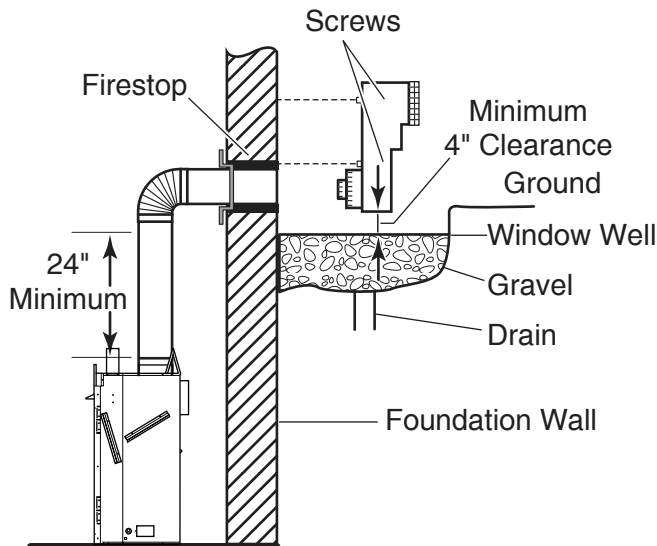

Figure 28 - Below Grade Installation
2. Remove soil to a depth of approximately 16" below base of snorkel. Install drain pipe. Install window well (not supplied). Refill hole with 12" of coarse gravel leaving a clearance of approximately 4" below snorkel. *See Figure 28.*
7. Level the soil so as to maintain a 4" clearance below snorkel. *See Figure 28.*